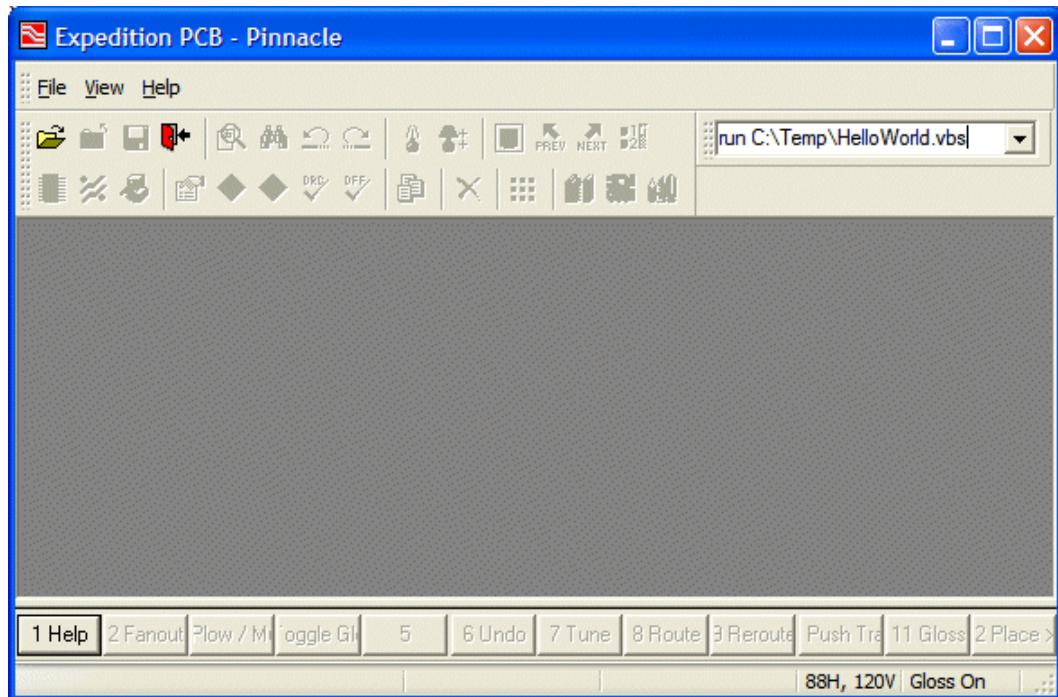

Figure 9-9. The way we used to do things (specifying the entire path).
- 12) If you cast your mind back to *Chapter 3: Running Your First Script*, you will recall that you had to enter the string *run C:\Temp\HelloWorld.vbs* into the **Keyin Command** field in order to run your *HelloWorld.vbs* script (Figure 9.9).